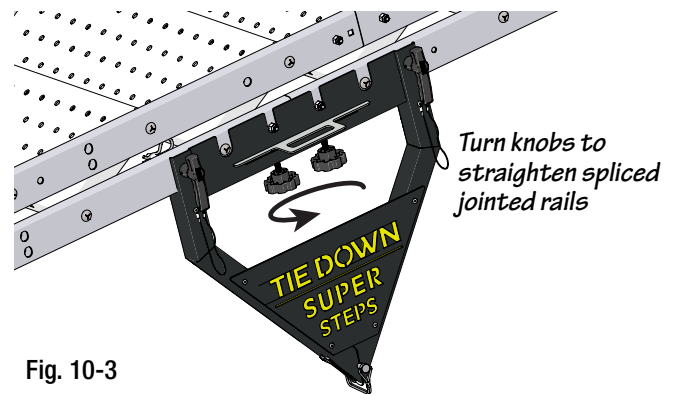

Fig. 10-3
- The cuffs should align with the mounting holes located at the end of each hand rail as shown in Fig. 10-3.